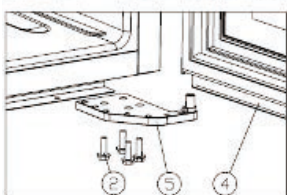

Figure 2
- Unscrew the M5*16screws ②, dismantle the right lower hinge ⑤.[Figure 2]